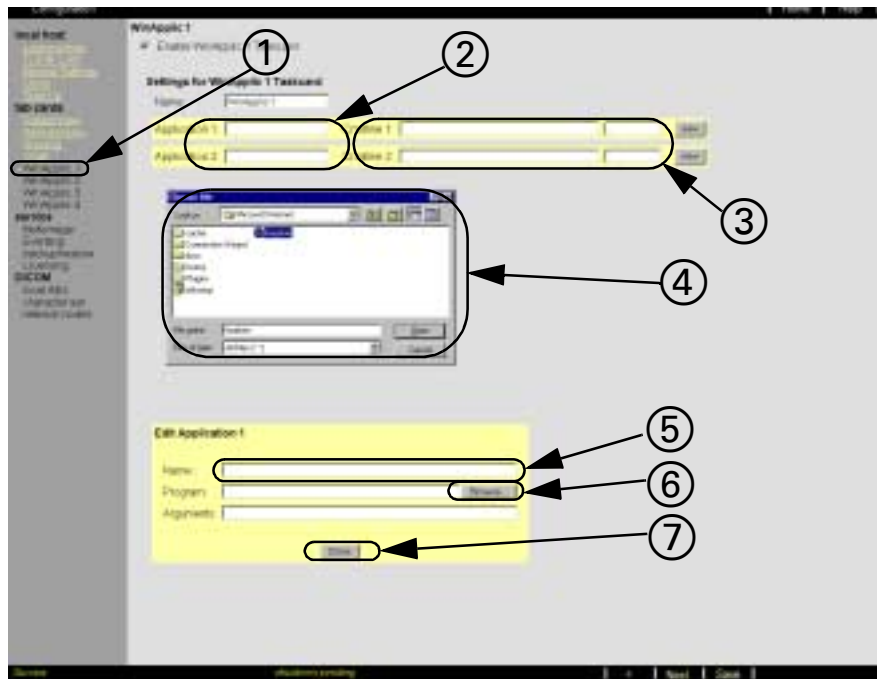

Figure 13-58 WinApplic Taskcard Setting
1. Click on *WinApplic1* (① in Figure 13-58), then click on *Next* at bottom of screen.
4. Examine Application 1 box (② in Figure 13-58), and do either a or b, as appropriate.
8. Type Application Name in Application box (② in Figure 13-58).
9. Type path that corresponds to Program's executable file (e.g. D:\Program Files\Microsoft Office\Office\WINWORD.EXE) in "Cmdline1:" box (③ in Figure 13-58), and then continue to step 10.
Note: If Program's executable file path is not known, click on *New* button next to Cmdline x: box, then click *Browse* button in "Edit Application" window (⑥ in Figure 13-58), and locate file using the "Choose file" window (④ in Figure 13-58). Type Application Name in Name box (⑤ in Figure 13-58), and click on Done (⑦ in Figure 13-58).
13. Complete Section 13.10.4 and 13.10.5. In step 5 of 13.10.5 delete path that corresponds to Program’s executable file (e.g. D:\Program Files\Microsoft Office\Office\WINWORD.EXE) in “Cmdline1:” box (see example ③ in Figure 13-58 on page 63).